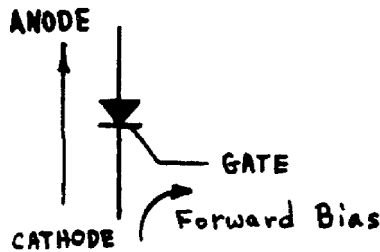

Figure 42. SCR.
(2) The silicon controlled rectifier (SCR) is like a conventional diode, except that it has a gate terminal which controls the rectifying function. The symbol is shown in figure 42.